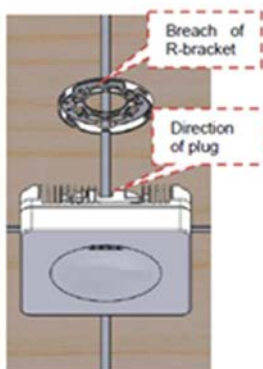
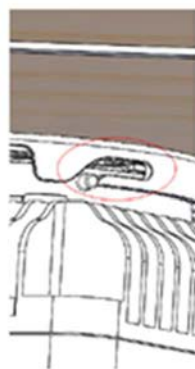
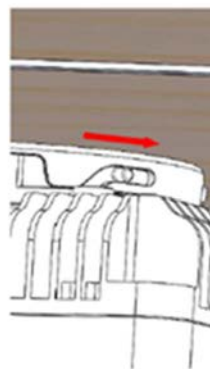

Figure 3-22
Figure 3-23
Figure 3-24
Step 2. Connect the power cable and the fiber cable onto the IRU-O module. Align breach of bracket with direction of plug (Figure 3-22). and ensure that the attachment plate is fully inserted into the bracket (Figure 3-23). Rotate clockwise and hear the spring snapping (Figure 3-24). Ensure that the IRU-O module is properly installed.